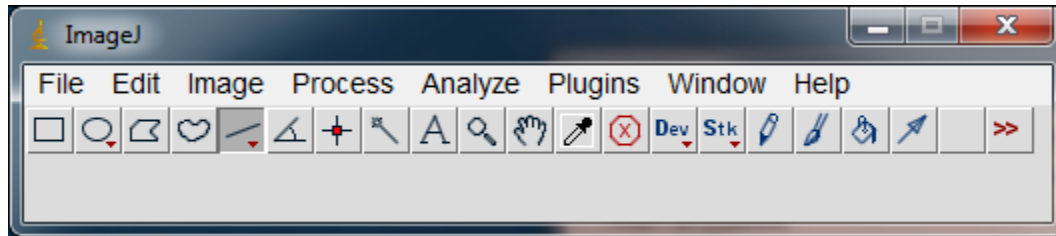

Figure 6. Use the straight line tool to close off the base of each peak of interest.
11. Choose the **Straight Line** selection tool from the ImageJ toolbar (Figure 6). For each peak you want to analyze in the profile plot, draw a line across the base of the peak to enclose the peak (Figure 5). This step requires some subjective judgment on your part to decide where the peak ends and the background noise begins.